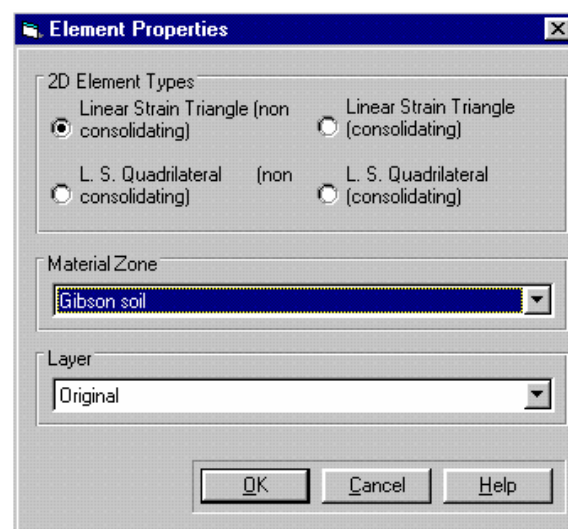

Figure 4-15: Defining Element Type and Zone
Step 5 The Element Properties dialogue box should now look like Figure 4-15. Click on **OK** to exit, once you have finished.